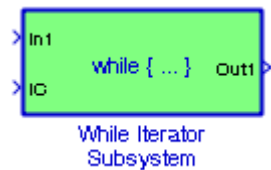
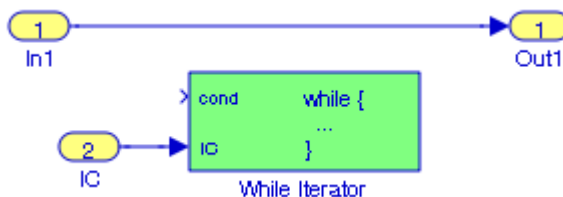
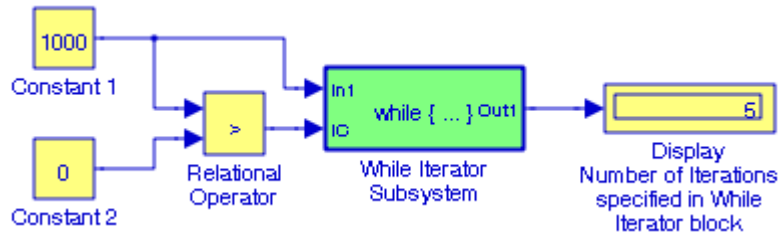

Figure 11.57. The While Iterator Subsystem block before configuration, Example 11.12
Figure 11.58. The While Iterator block for the While Iterator Subsystem block in Figure 11.57
Figure 11.60. Final form for the model for Example 11.12
We begin by dragging a **While Iterator Subsystem** block into a new model as shown in Figure 11.57. We double-click it and the subsystem now appears as shown in Figure 11.58. We add and interconnect **In1**, **Out1**, **Sum**, **Memory**, and **Relational Operator** blocks, and the model of Fig-
We return to the **While Iterator Subsystem** of Figure 11.57 and we add the **Constant** and **Display** blocks as shown in Figure 11.60. The output of the **Relational Operator** block is True (logical one) and this establishes the Initial Condition (IC) input to the **While Iterator Subsystem** block. As noted below the **Display** block in the model of Figure 11.60, the number of iterations is specified in the While Iterator is 5. The **Display** block in the model of Figure 11.61 indicates that the sum of the first N integers after 5 iterations is 765.